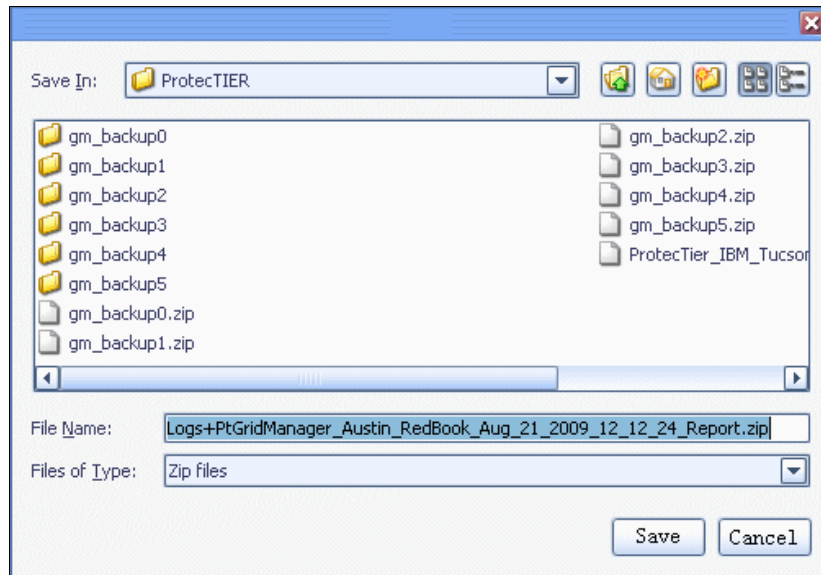

Figure 10-74 Save report.zip file window
8. Click **No**. A standard save window opens, enabling you to save the report.zip file (Figure 10-74).